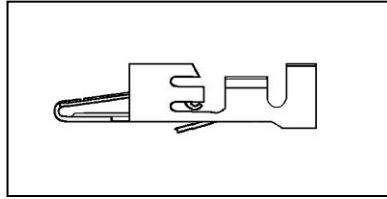

Figure 7.3 Turn Signal Connector Terminal
7.3.1 According to **Table 7-1**, connect the wires of the TURN SIGNAL SECTION using the supplied terminals (see **Figure 7.3**) to your automobile's existing Turn Signal Connector. Mopar wire color codes for a number of years are provided for reference. Mopar has not been uniform in assigning wire colors over the years; so you may find that the wire colors in your existing Mopar harness differ from those shown.